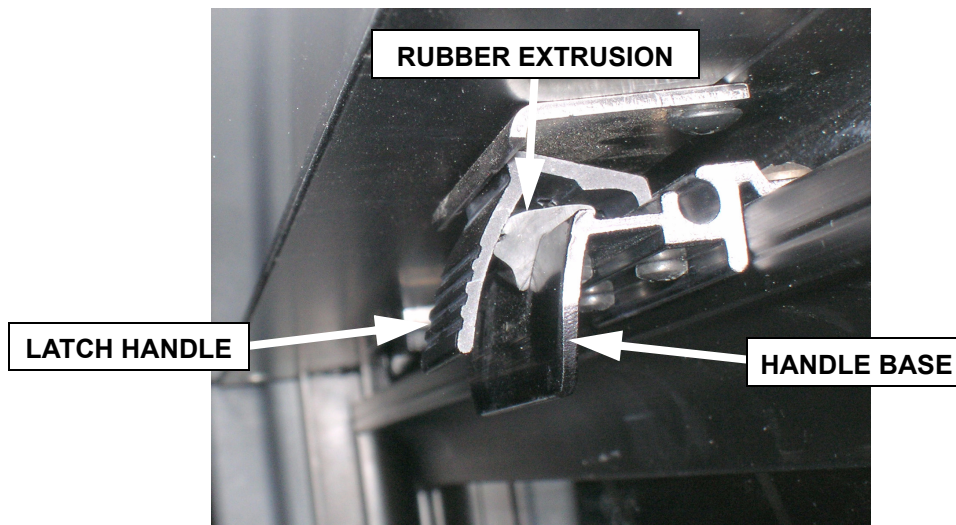

Figure 1-2
4. Close the transom window. See Figure 1-2